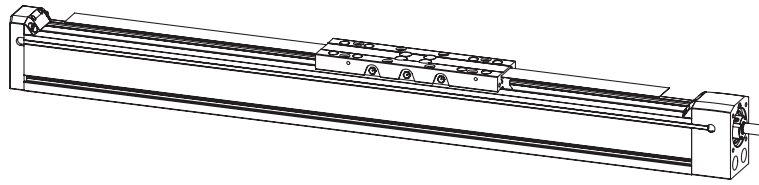

Fig. 7.4 **Installing the cover strip in the carriage**
- ▶ Insert the cover strip through the upper opening in the carriage profile as shown in Fig. 7.4.